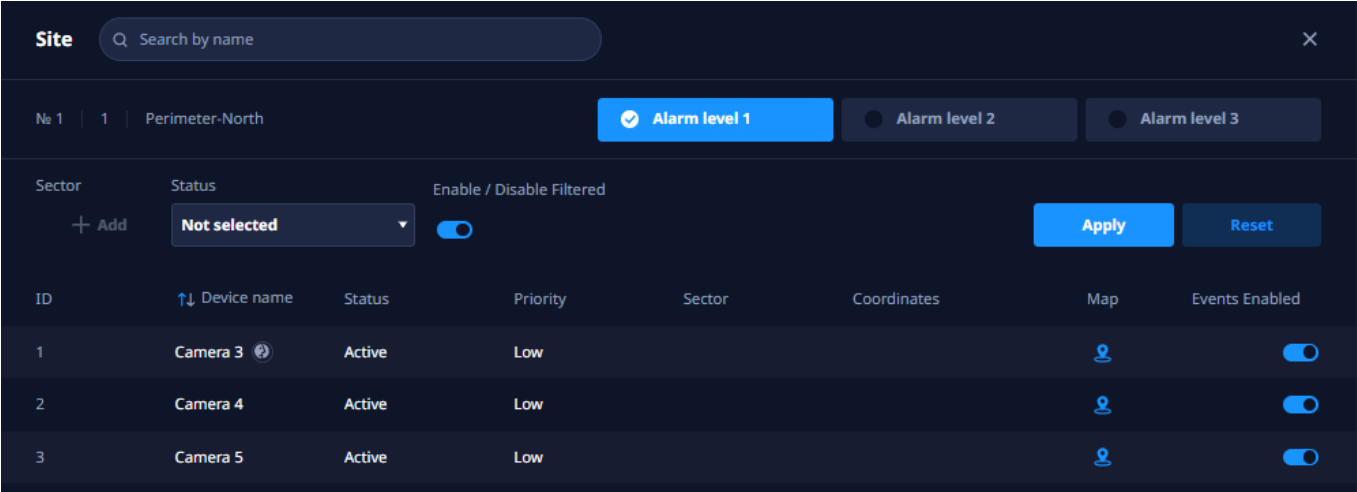

Figure 49. "Site" section
3. If it is required to configure incident notifications during the scheduled maintenance, click the **Open** button to the right of the **Site** and **Sector** fields. The **Site** section will be opened in the current **Scheduled Maintenance** section (see Figure 49). After configuring incident notifications (see Site Management), click the **X** (Close) button in the upper right corner to return to creating a scheduled maintenance.